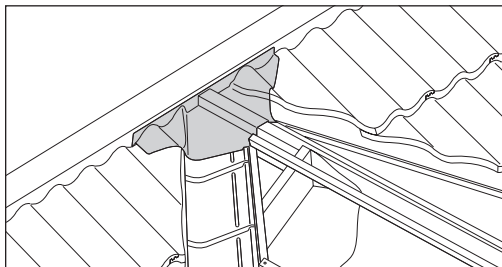

Fig 74 – Saddle at ridge/roof/valley intersection (interlocking tiles)
- Saddles should be capable of being readily dressed down when in position (Figs 74 and 75).